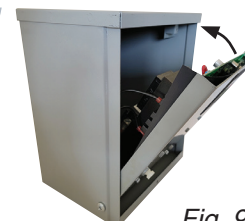

Fig. 9
16. Close the hinged front plate and secure the upper right corner into the bracket with the small screw provided in kit as seen in **Figures 9 & 10**.